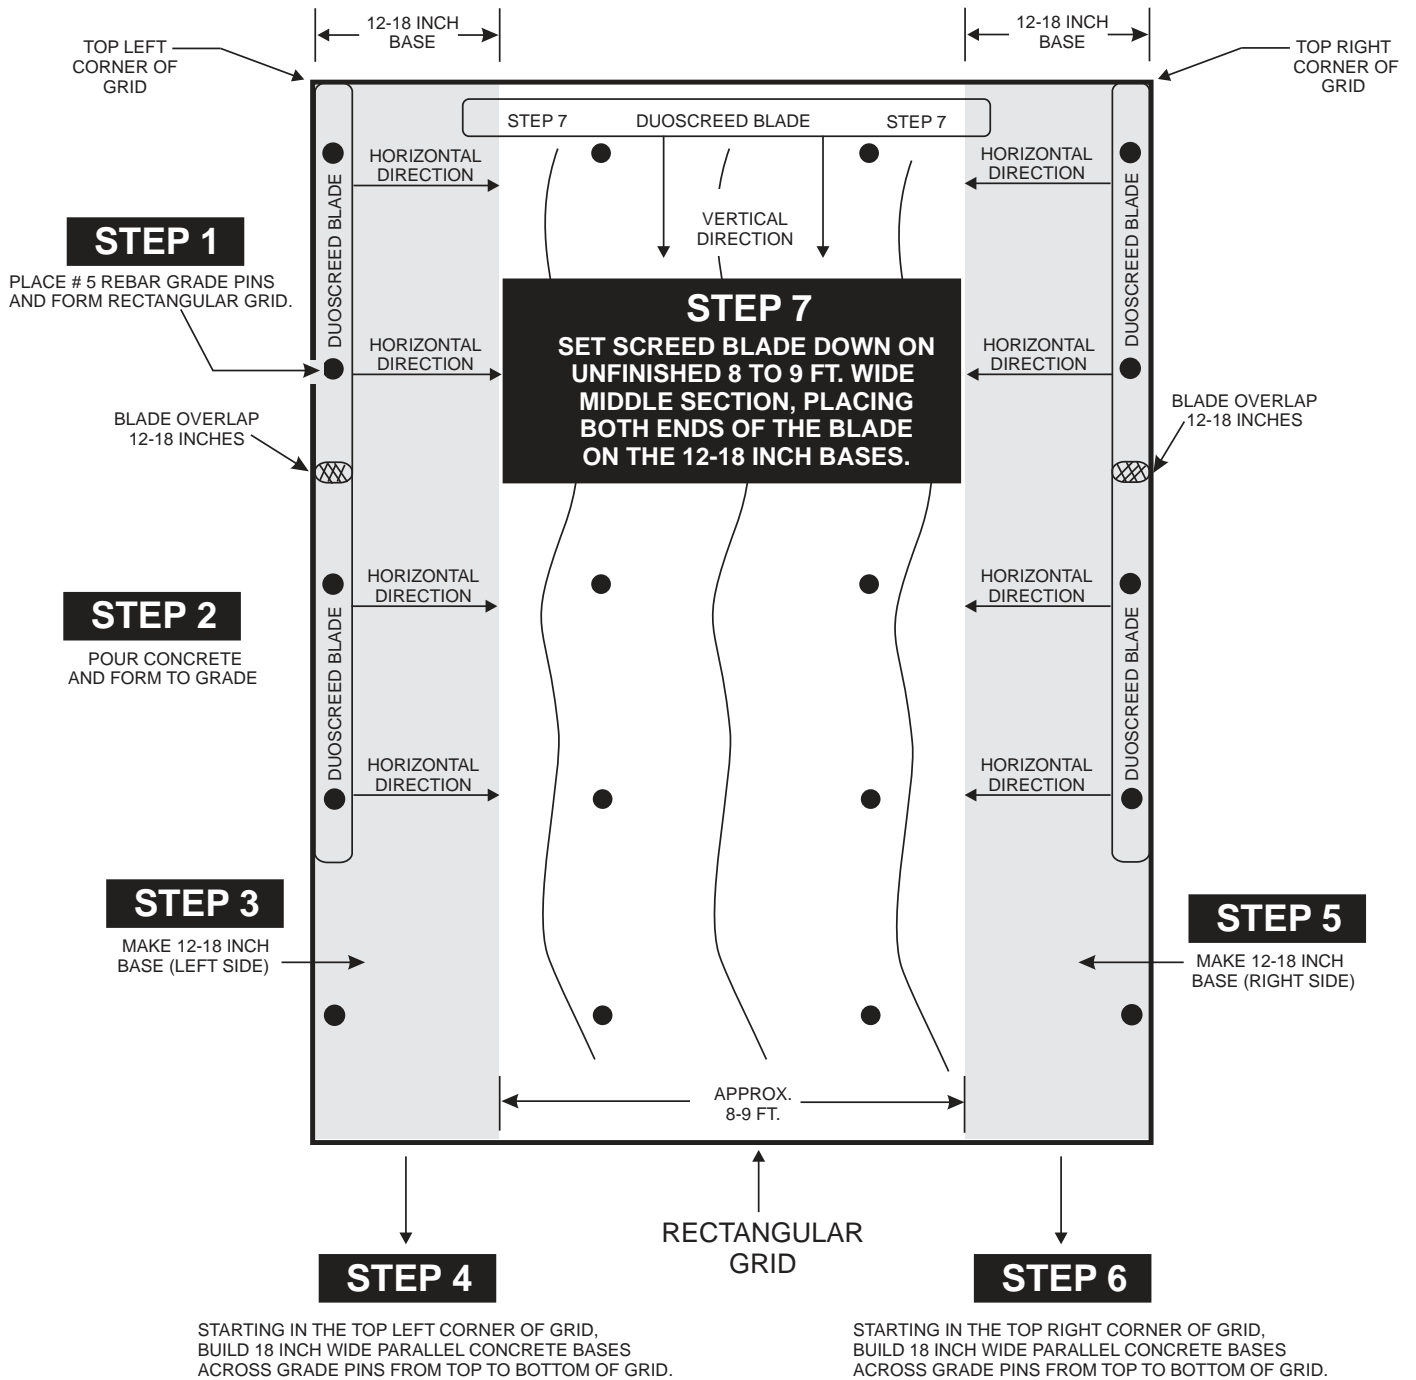

Figure 16. DuoScreed Wet Screeding Application
8. Set the DuoScreed blade down in the concrete base in the **left** most corner of the grid between the two grade pins as shown in Figure 16. Adjust the DuoScreed's handle bar to a height where the operators is not bending over, but standing upright with arms extended forward.
12. After a complete pass over the first set of grade pins has been made, remove the DuoScreed from the concrete base and position it over the second set of grade pins (Figure 16), overlapping the first set of grade pins between 12-18 inches. Repeat this process until all **left** edge grade pins have a level base between 12-18 inches wide.